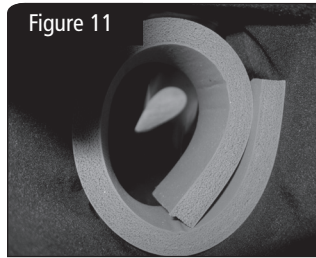

Figure 11
3. Place the jig inside the suit. See Figure 11.